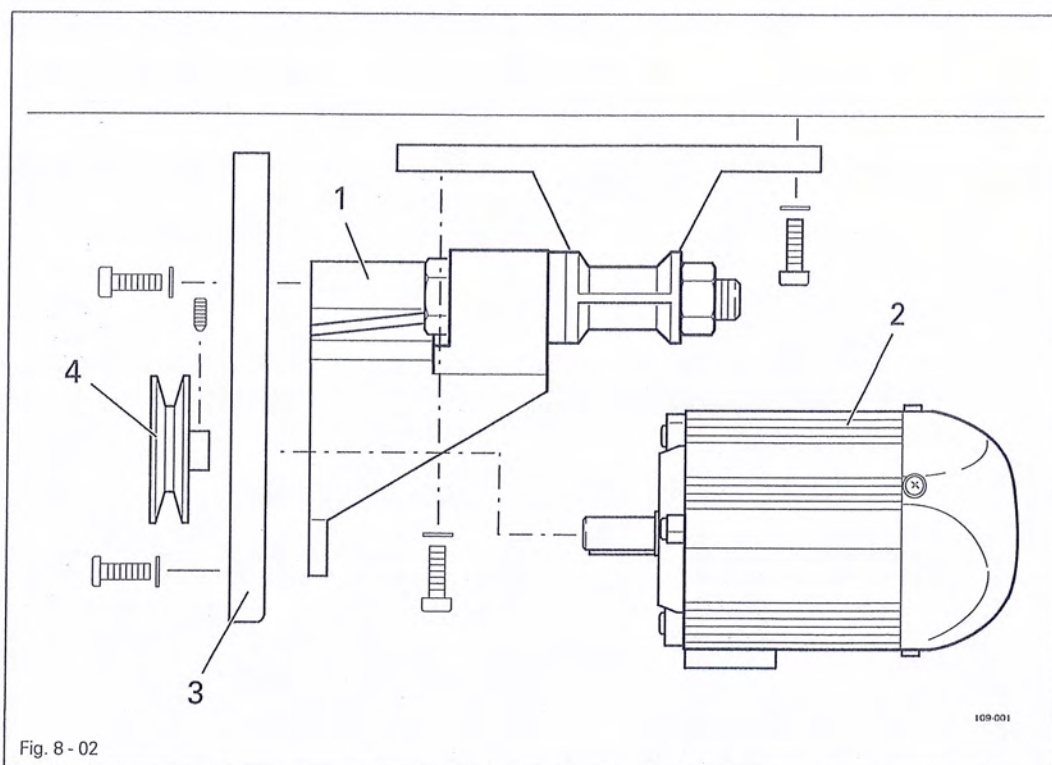

Fig. 8-02
- Assemble motor mounting 1, motor 2, belt guard support 3 and belt pulley 4 as shown in Fig. 8-02.